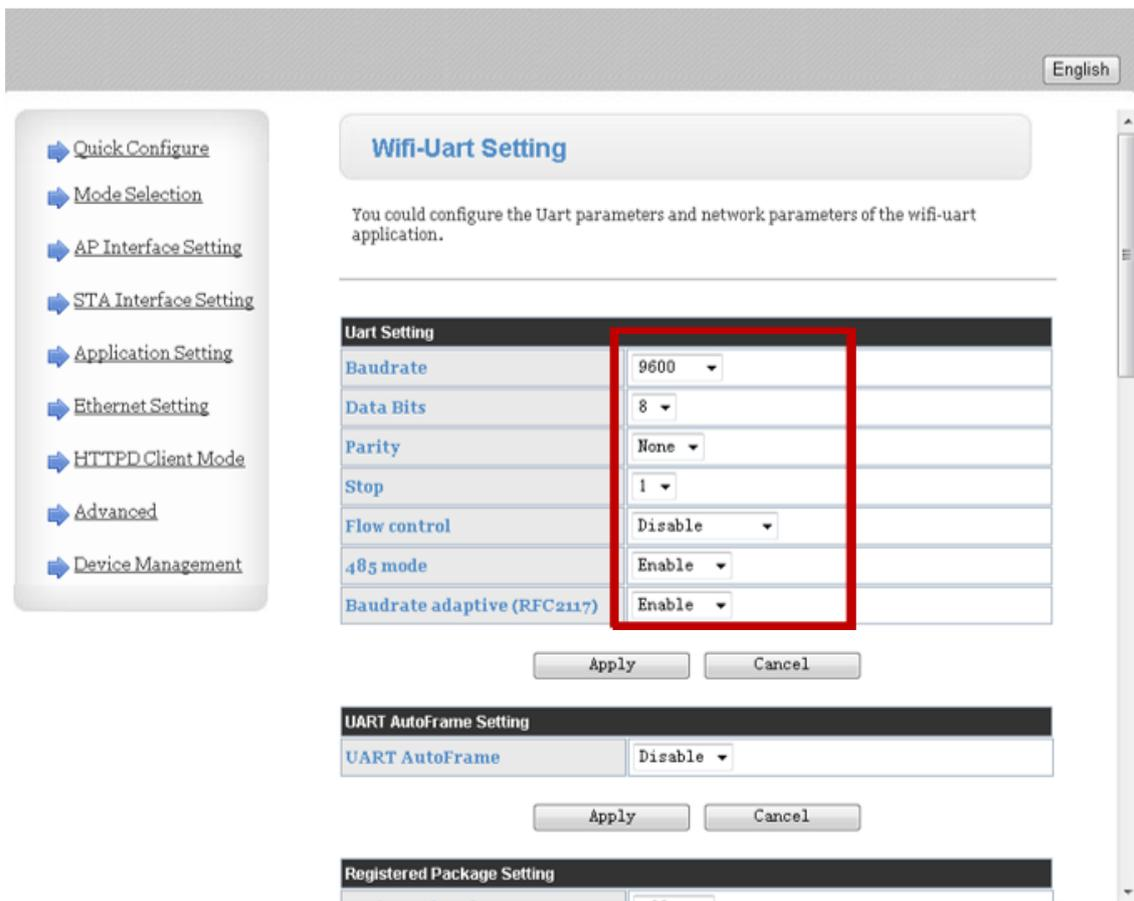
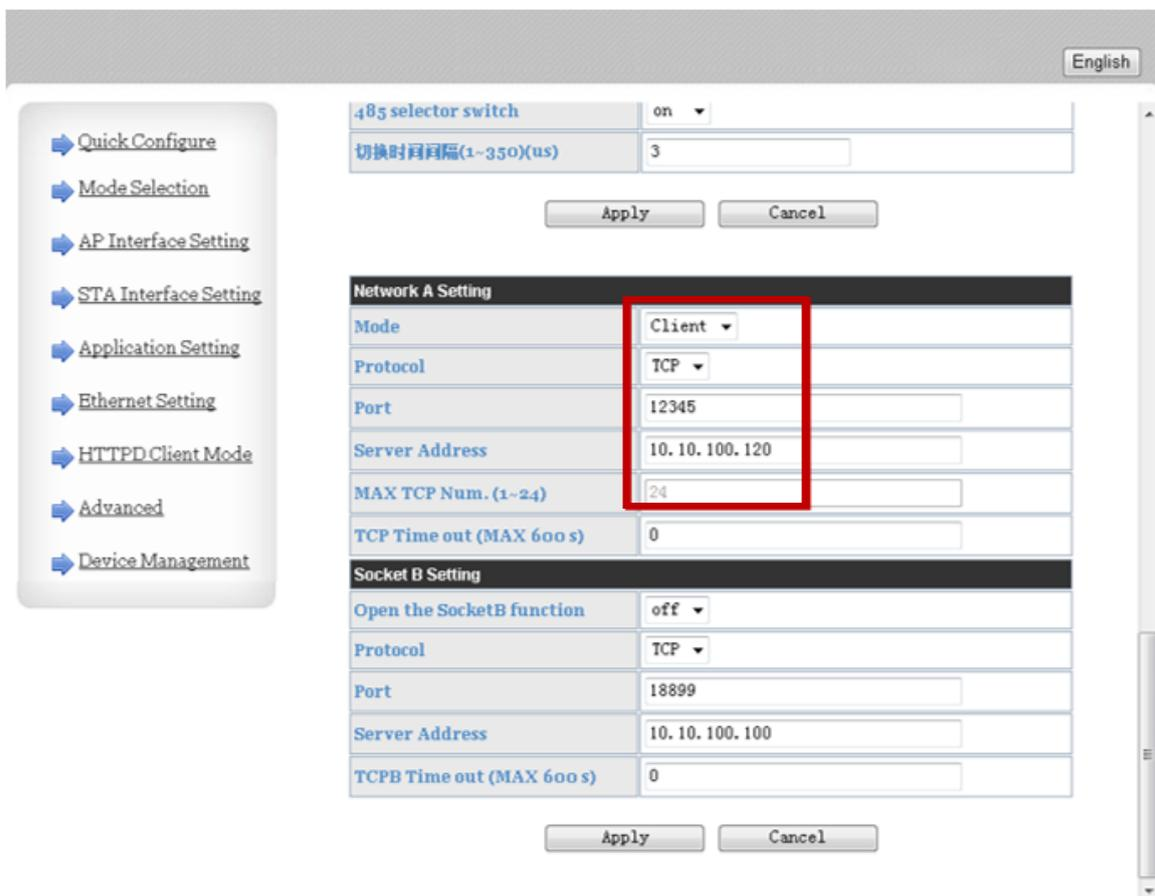

Figure 8
Figure 9
E. Click "STA Interface setting" in the directory on the left. Refer to Figure 8 to set the serial port of the wireless network port converter and Figure 9 to set the wireless network port converter (the following IP address settings are only for reference. Users only need to set the IP address of the wireless network port converter server to be consistent with that of the computer wireless network card. Users can set the IP address according to their needs Self modification is required);